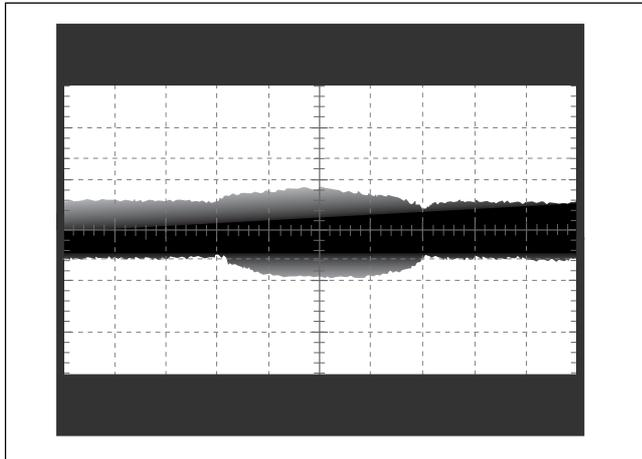
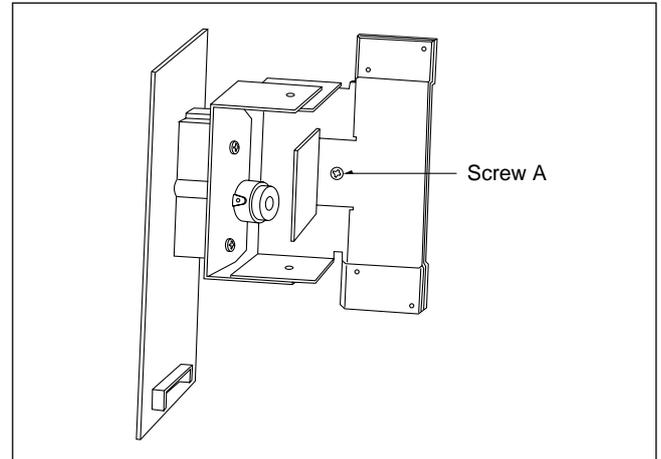

Fig. 6
Fig. 7
7) Adjustment of oscilloscope. (See Figures 6 and 7.)
- Adjust screw A shown in Figure 7 so that the waveform (4.7Å)0.3Vp-p) is as shown in Figure 6.